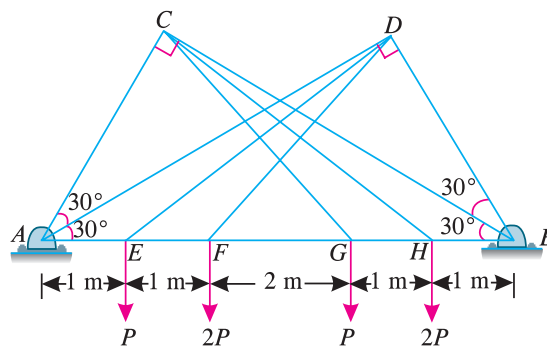

Fig. 13.63
**Example 13.21.** A framed structure of 6 m span is carrying point loads as shown in Fig 13.63.
**Solution.** First of all, from  $D$  draw  $DK$  perpendicular to  $AB$  as shown in Fig 13.63. From the geometry of the figure, we find that